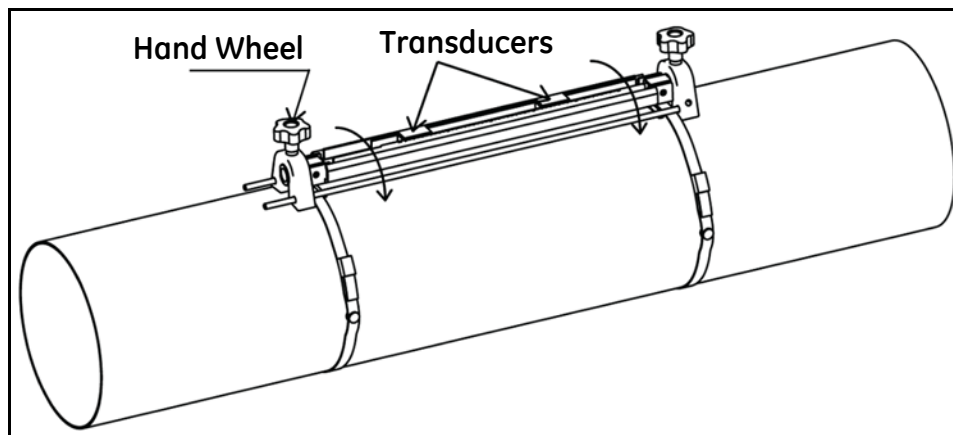

Figure 12: Transducers Rotated into View
- a. Loosen both transducers and rotate the fixture so that the transducers are in view (see *Figure 12* below).
- a. Rotate the fixture so that the transducers are in view (see *Figure 12* on page 12).